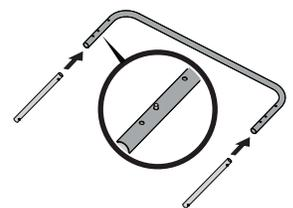

Figure 9
- Install four adjustment tubes into the two u-shape tubes, sliding until spring buttons snap into the middle holes as shown in Figure 9.